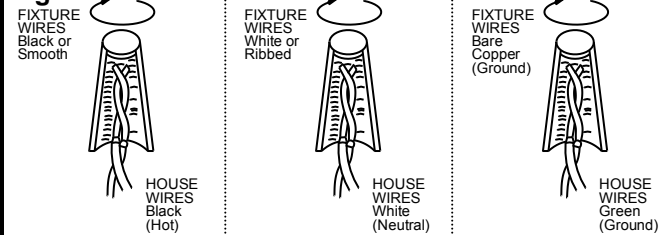

Fig. 5
PREPARATION (Fig. 3 & Fig. 5)
1. Loosen hex nut (S) by using wrench (W) (not included). Carefully remove washer (T), lock washer (U), metal plate (V), canopy (C), and swivel (P) (Fig.5).
2. Secure rod (H) onto all thread (Q) on top of fixture body.
3. Place plastic washers (G), glass ball (I), plastic washers (G), and threaded metal ring (E) over all thread on rod (H).